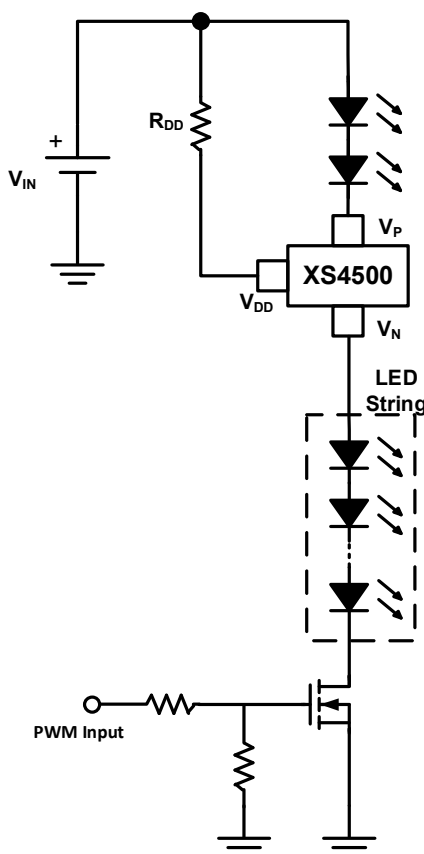
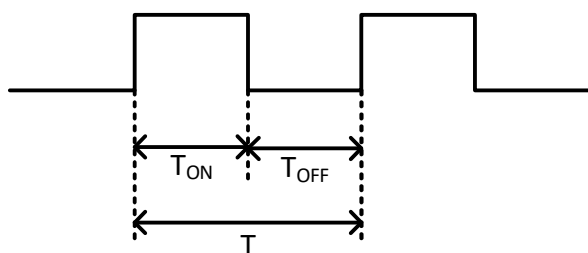

Figure 11. PWM dimming by external MOSFET
Figure 12. PWM dimming signal
The LED dimming can be easily achieved by placing an external MOSFET in series with XS4500 and the dimming effect can be achieved by adjusting the PWM duty cycle, as shown in figure 11. Besides, duty cycle is expressed as below and that is a ration of LED turn-on time (T_{ON}) dividing the total time of an on/off cycle (T) which is shown in figure 12, and figure 13 shows the current accuracy with different duty cycle.